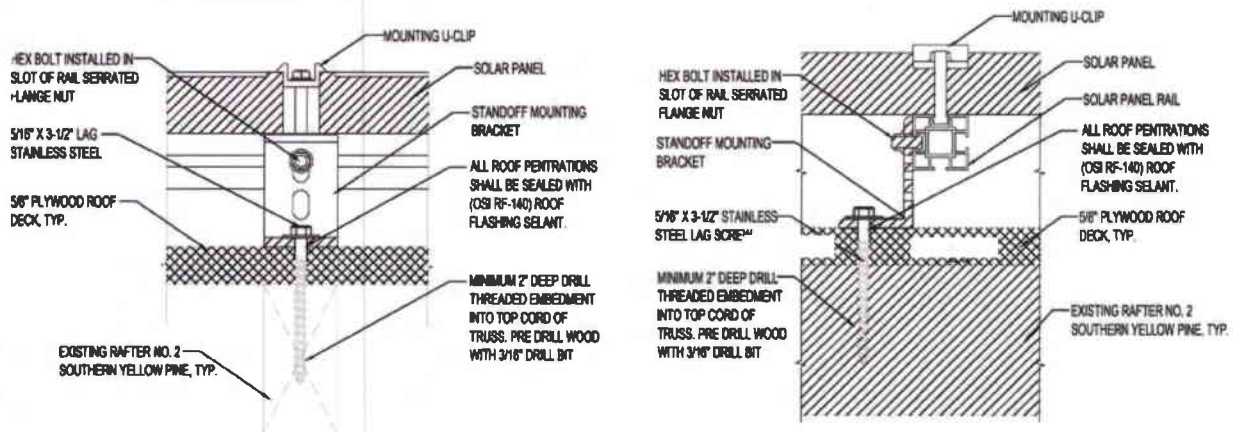

Figure 1 - Basic Mounting Structure
- ASP PV modules can be mounted by various methods, using the four mounting holes located on the module frame or may also be mounted using mounting clips on the channels within the recommended area located on the module frame. (please refer to Figure 1 and 6)
- Put the ASP PV modules on the channels, using the bolts, nut and washers then, tighten to 9.5N.m to 10N.m., or 7.00 to 7.50 foot pounds, on the bolt and nut with proper tools as described in Figure.1.